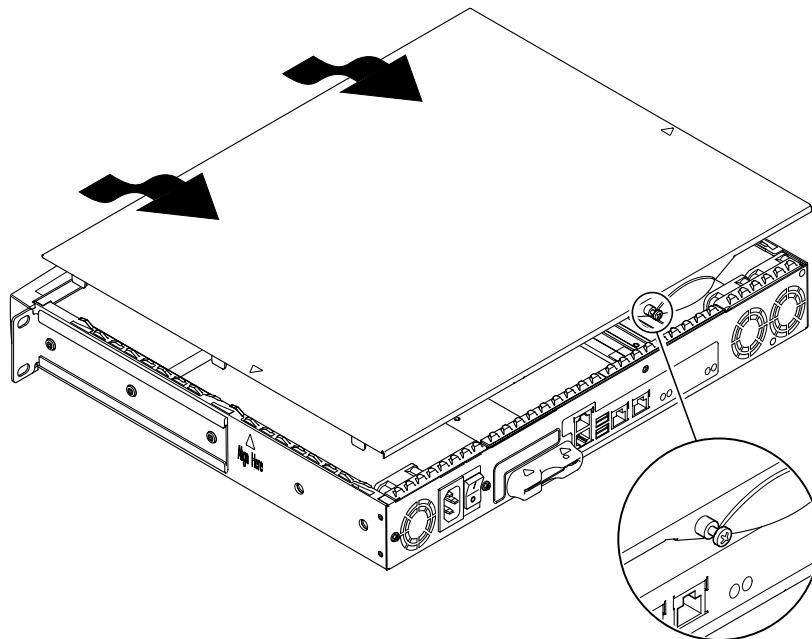

FIGURE 8-3 Removing the Top Cover
2. **Unscrew the captive screw from the back of the unit (see FIGURE 8-3).**